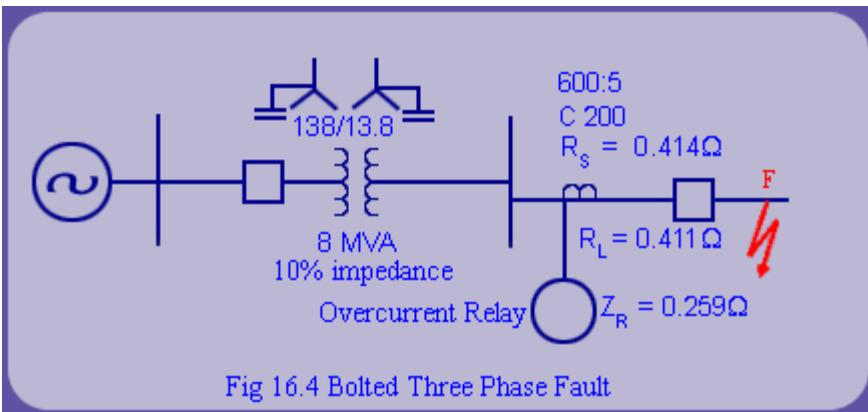

Fig 16.4 Bolted Three Phase Fault
1.A 8 MVA, 138/13.8 KV transformer is connected to an infinite bus. If a bolted three phase fault occurs at F, find out the fault current. The impedance of the transformer is 10% and location of the fault is close to the bus as shown in fig 16.4.